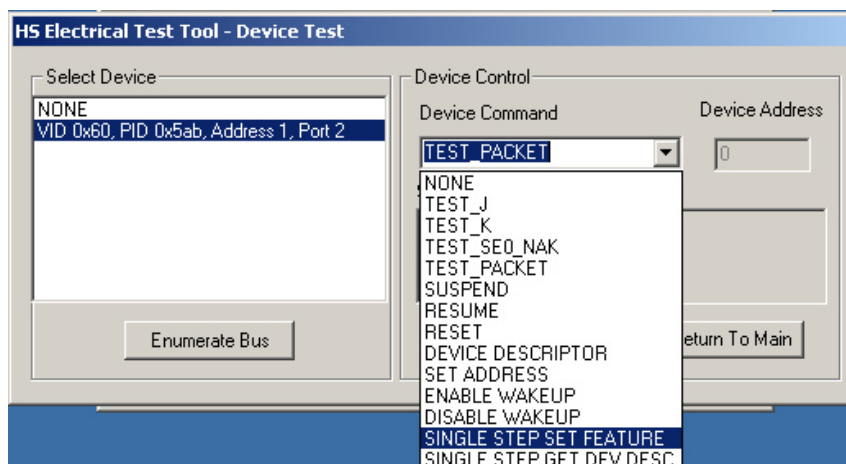

Figure 10. Device Single Step Set Feature
7. On the HS Electrical Test Tool – Device Test menu, select SINGLE STEP SET FEATURE from the Device Command window and click EXECUTE once (Figure 10).
**NOTE** EOP could appear as a negative going pulse, or a positive going pulse on differential measurement. Figure 10 illustrates the appearance of a negative going EOP.